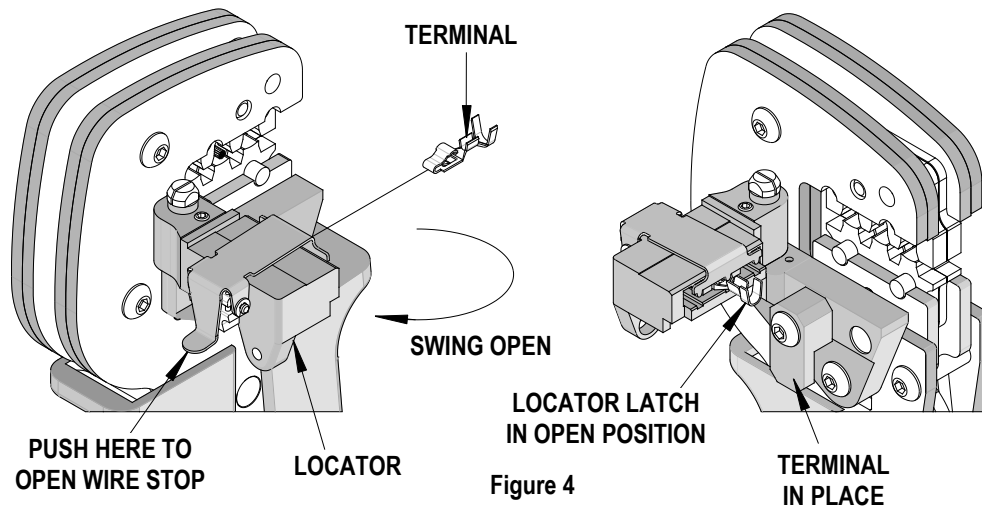

Figure 4
3. Swing the terminal locator away from the crimp tool shown in Figure 4.
4. Press down on the wire stop on the locator as shown in Figure 4. Insert the terminal into the proper nest opening. Make sure when choosing the nest opening, it will correspond with the correct profile on the hand tool.